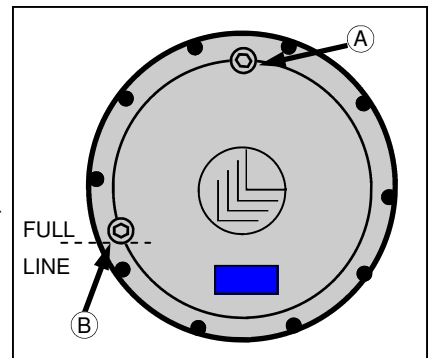

FIG 115-1
**OIL LEVEL**– Each wheel hub should maintain a proper oil level at all times. Less than that would limit lubrication and over full would cause overheating and damage. To check the oil level, position the hub so one of the face plugs is positioned at 12 O'clock (fig. 115-1, item A). The other plug will be at 8 O'clock (fig. 115-1, item B). (When positioned correctly the arrows in the center of the hub should make an "L".) Remove the lower plug;
To change the wheel hub oil, position the plugs so that one is at the 6 O'clock position, and the other is between the 2 and 3 O'clock positions. Remove the bottom plug to drain the oil. Once all of the oil is drained, rotate the hub so that the plugs are in the filling position (fig. 115-1). Refill wheel hub with gear oil as described above.